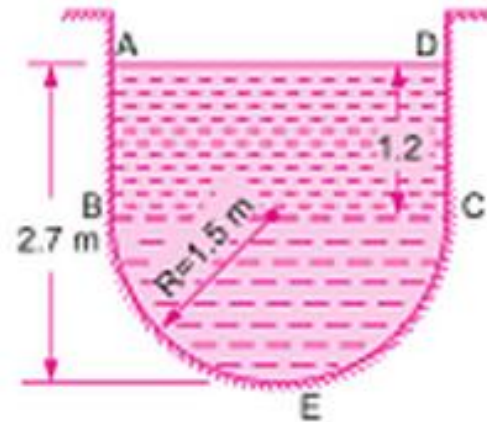

Fig. 16.5
5. Find the discharge through a channel shown in fig. 16.5. Take the value of Chezy's constant $C = 55$. The slope of bed of the channel is 1 in 2000